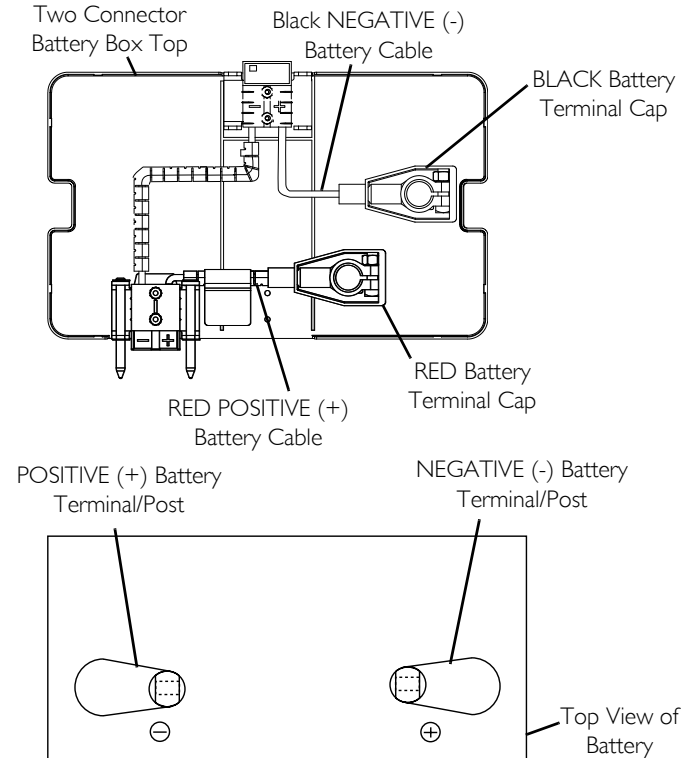

FIGURE 6 Disconnecting/Connecting Battery Cables - Group 24 Batteries
For this procedure, refer to FIGURE 5 on page 98 and FIGURE 6 on page 99.
3. Remove the locknut and mounting screw or clamp to disconnect BLACK battery cable from the NEGATIVE(-) battery terminal/post (Detail “A” of FIGURE 6)
4. Remove the locknut and fuse mounting screw or clamp to disconnect RED battery cable from the POSITIVE (+) battery post (Detail “A” of FIGURE 6).
1. Position battery box top above battery as shown in FIGURE 6.
3. Install the locknut and mounting screw or clamp to connect the BLACK battery cable to the NEGATIVE (-) battery terminal/post (Detail “A” of FIGURE 6).
4. Install the locknut and fuse mounting screw or clamp to connect the RED battery cable to the POSITIVE (+) battery post (Detail “A” of FIGURE 6).